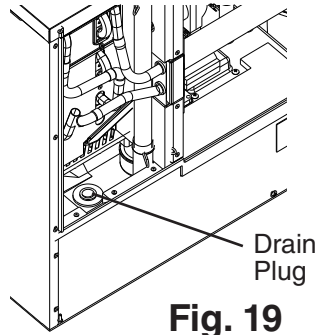

Fig. 19
- 2) Remove the front insulation panel, then remove the water tank drain plug located in the bottom of the water tank. See Fig. 19. Allow the water tank to drain.